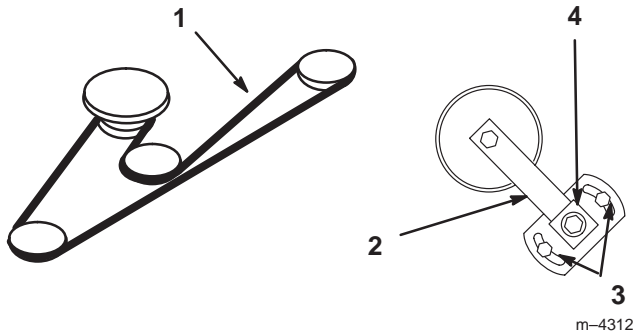

Figure 62
3. Loosen the two nuts securing the idler plate and move the idler arm to relieve the belt tension on the idler pulley; then remove the worn deck belt (Fig. 62).
4. Install the new deck belt around the spindle pulleys, belt guide, the idler pulley, and in the lower groove of the center spindle pulley (Fig. 62).